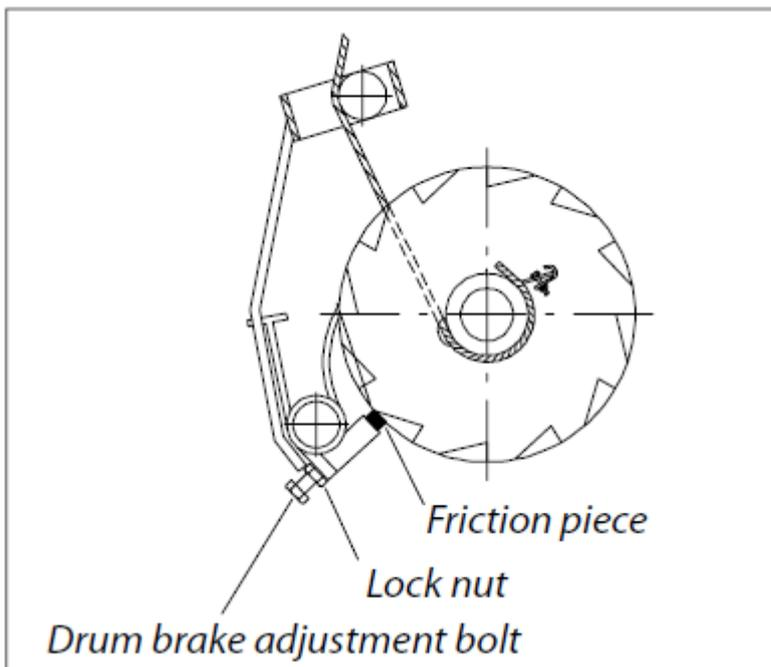

Fig. 18.
1. To increase the braking effect tighten the adjustment bolt. See fig 18. To decrease the braking effect loosen the adjustment bolt.